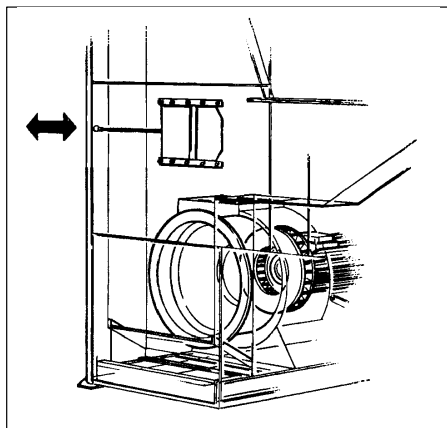

Fig. 4-14 Air bleed adjustment
5. Adjustment of air volume may be achieved by opening/closing the air bleed control situated in the internal fan inlet duct. Adjustment is made via a handle on the left-hand side of the base section (see fig. 4-14). Initially the valve should be set in a closed position and adjusted to aid system balancing if required.